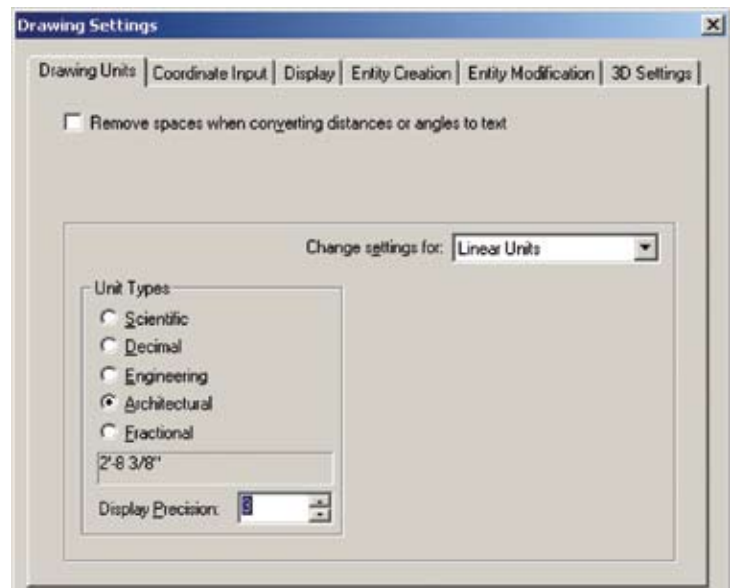

Figure 12.2
- Choose the **Drawing Units** tab, and then “Linear Units” from the **Change Setting For** droplist, as shown in Figure 12.2.